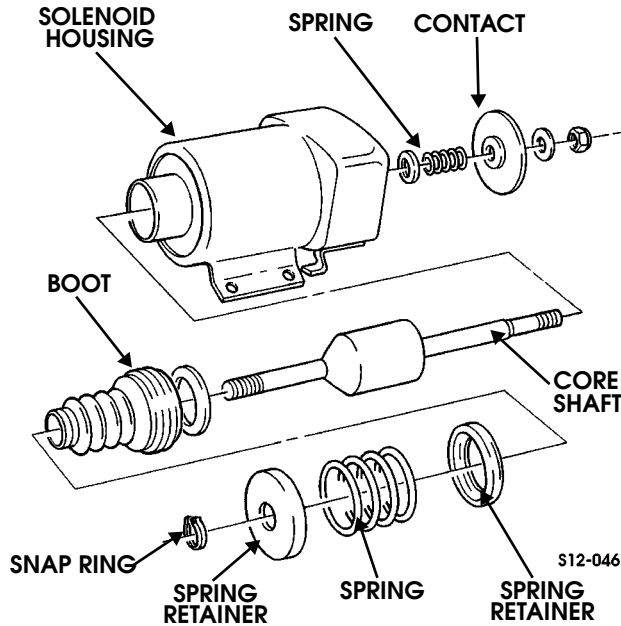

Figure 12-25: Solenoid Components
25. Holding core shaft, remove locknut, washer, and contact from core shaft (Figure 12-25).
27. Remove snap ring, spring retainer, spring, spring retainer, rubber boot, and washer from core shaft (Figure 12-25).